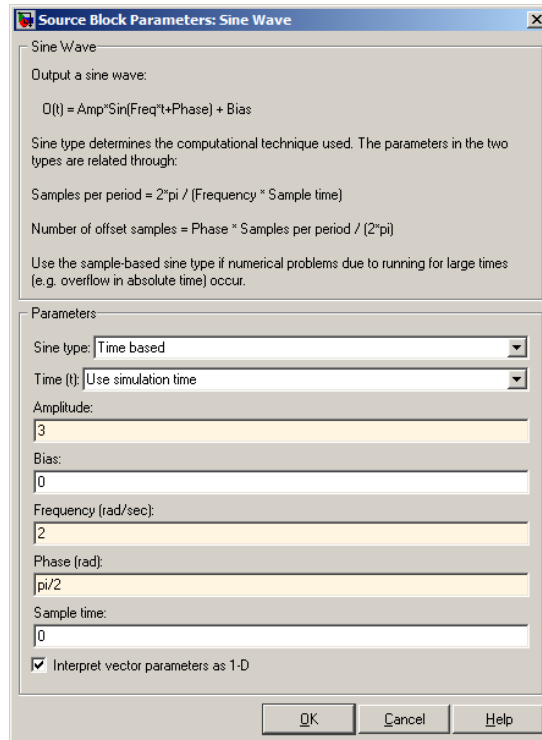

Figure 5 Settings of sine wave signal
- Double-click the SineWave block, do some changes as shown in **Fig. 5**.